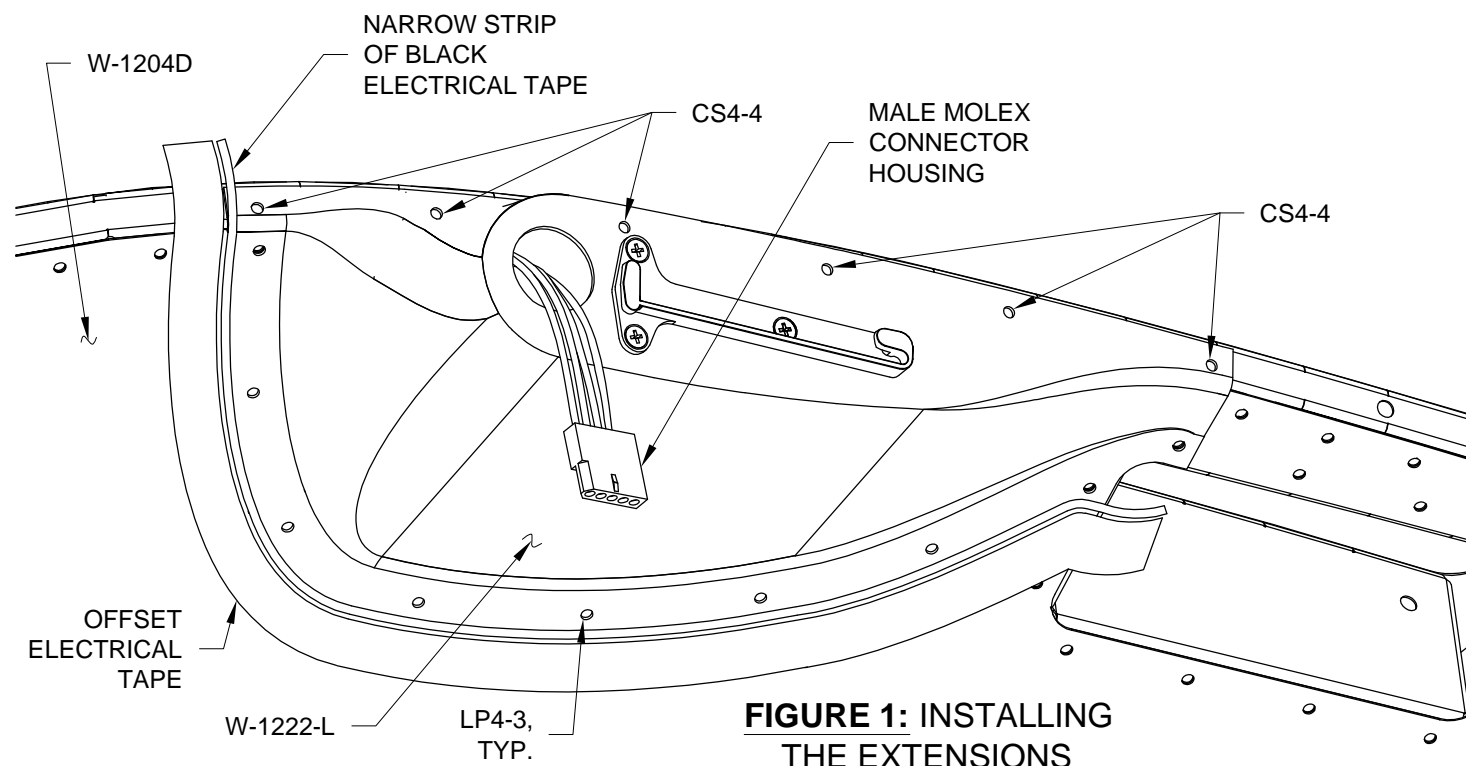

FIGURE 1: INSTALLING THE EXTENSIONS
Step 5: Pull the male Molex connector housings through the access hole in the W-1222-L & -R Extensions, then cleco and rivet the extensions to the wing tips. See Figure 1.